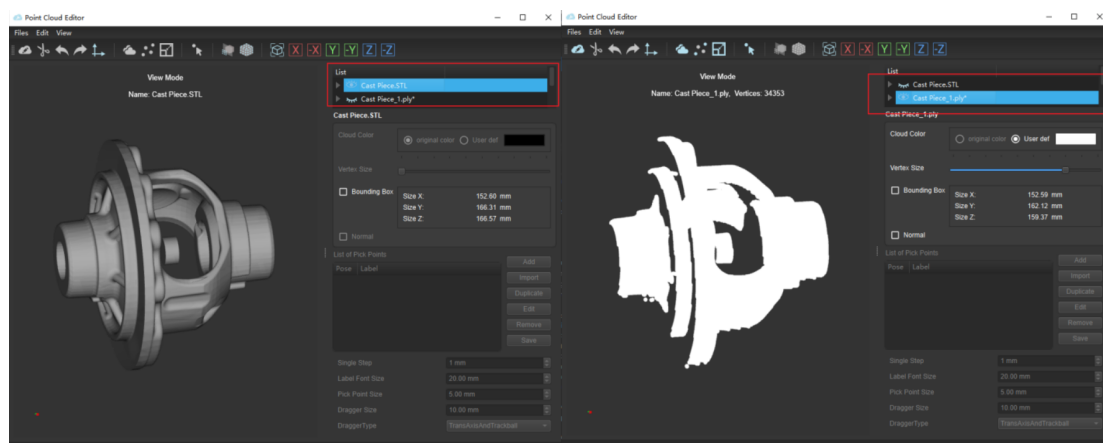

Figure 2. Set Point Cloud as Visible or Hidden
1. In the point cloud list, set the point clouds to merge as visible, set the ones not to merge as hidden, as shown in *Figure 2*.